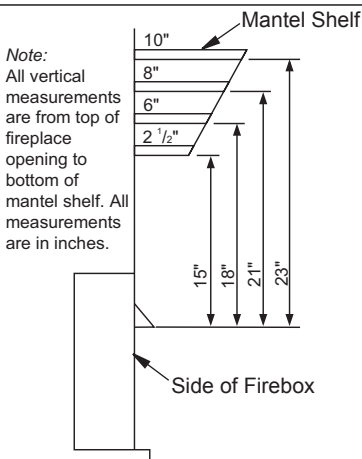

Figure 11 - Minimum Mantel Clearances for Built-In Installation
C. For mantel clearances, see Figure 11, page 12.